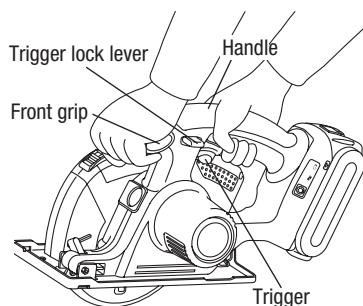

Fig. 5
- Hold the tool with both hands (Fig. 5). Do not attempt to remove cut material when blade is moving.
- Always hold the handle with one hand and the front grip with the other (Fig. 5). Maintain a firm grip and depress the switch fully.